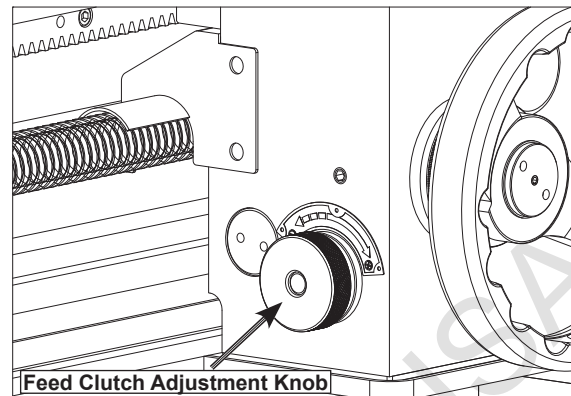

Figure 41. Feed clutch knob.
5. Adjust the feed clutch knob, shown in Figure 41, to set at which point the feed clutch will slip to avoid feed system overload.